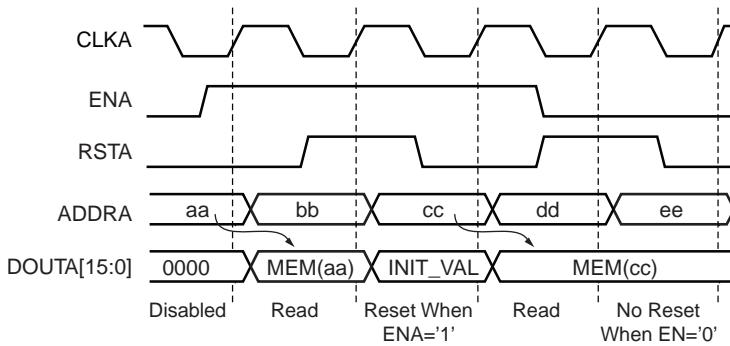

Figure 3-22: Reset Behavior When Reset Priority is Set to CE
**Figure 3-22** illustrates the reset behavior when the Reset Priority option is set to CE. Here, the first reset operation occurs successfully because EN is high, but the second reset operation does not cause any change in output because EN is low.